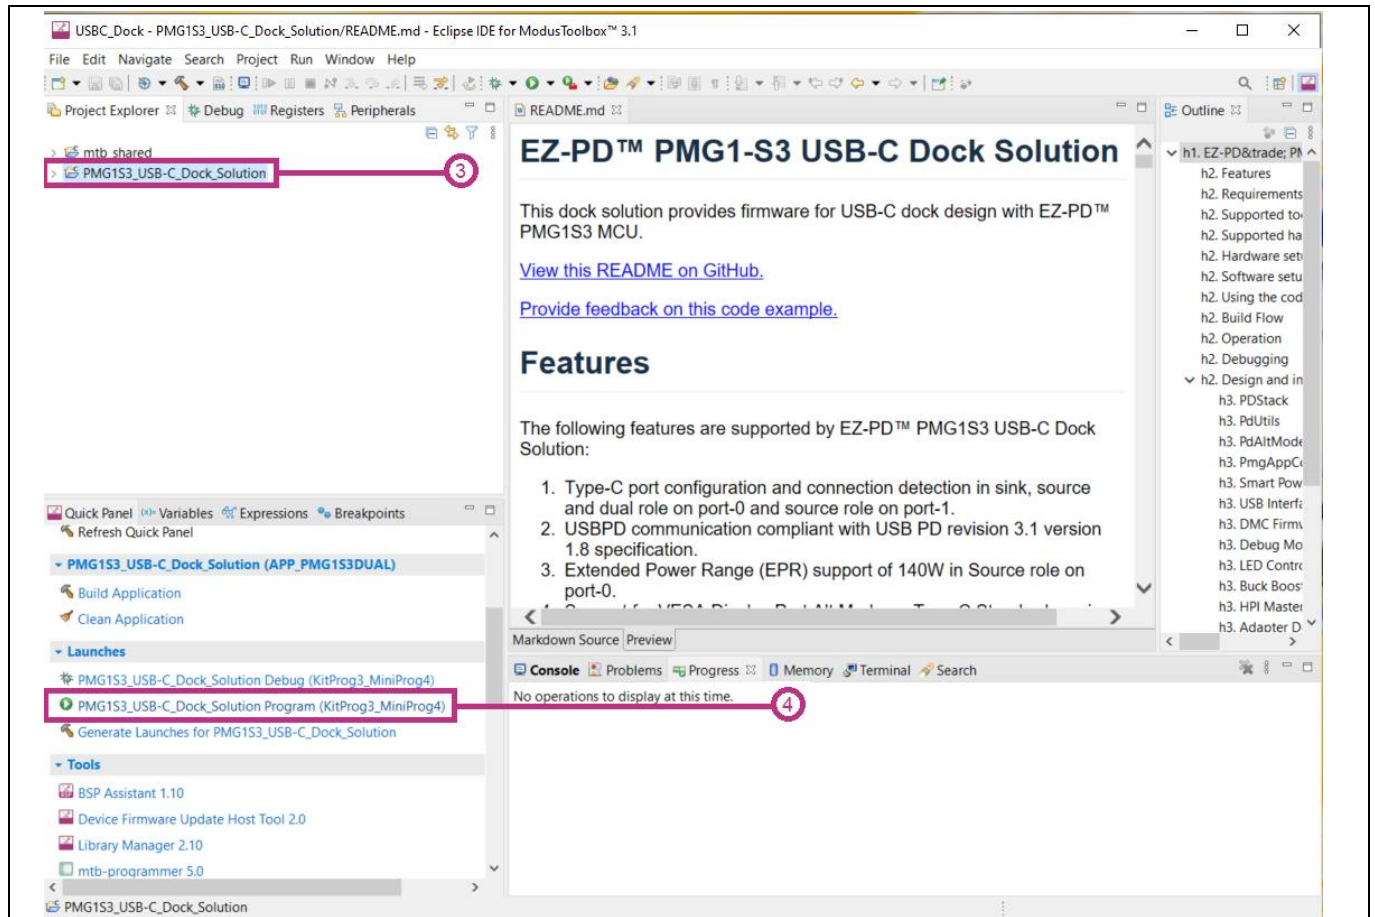

Figure 18 Programming the device using Eclipse IDE for ModusToolbox™ software
3. Select the application project in the **Project Explorer** (see Figure 18).
4. In the **Quick Panel**, under **Launches**, click **<Application Name> Program (KitProg3_MiniProg4)** (see Figure 18).